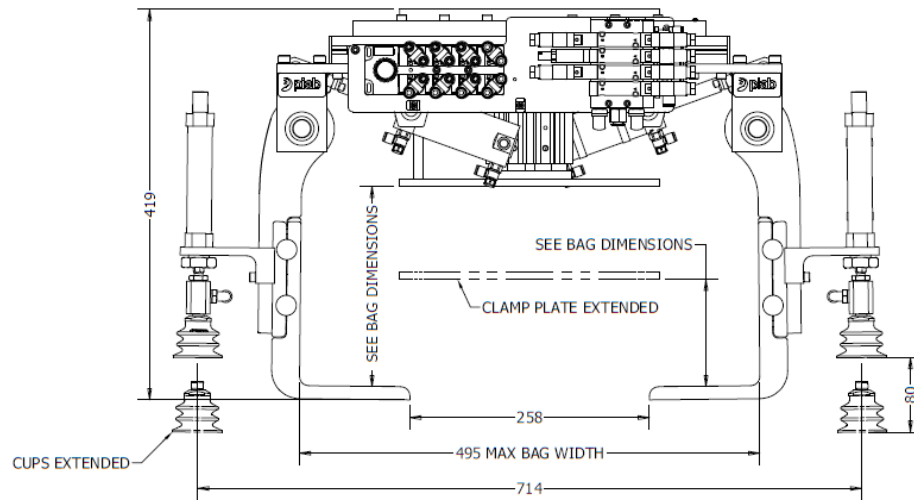

Figure 13 Bag gripper closed position, max. bag width (manually adjustable).
- Position showing the maximum width with fingers in the closed position (Adjustable by the Customer), see figure 13.